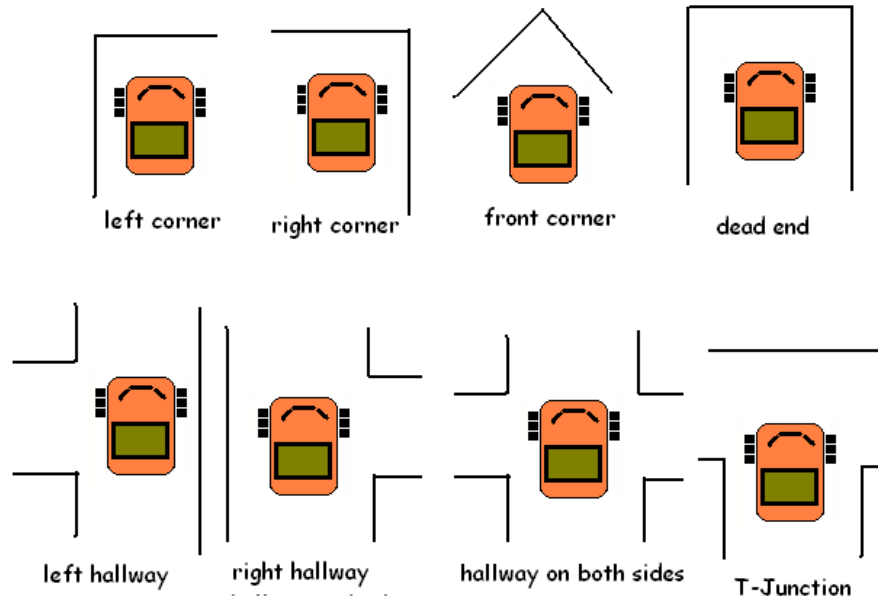

Figure 8: Distinctive Places
2. It would be advisable to use a combination of the IR and contact for sensor redundancy to identify these locations in the world. There will be some sensor error, this is a standard problem in mobile robot navigation and the program should be designed in such a way to minimize the effect of the error. Figure 8 provides descriptions of the possible world landmarks.